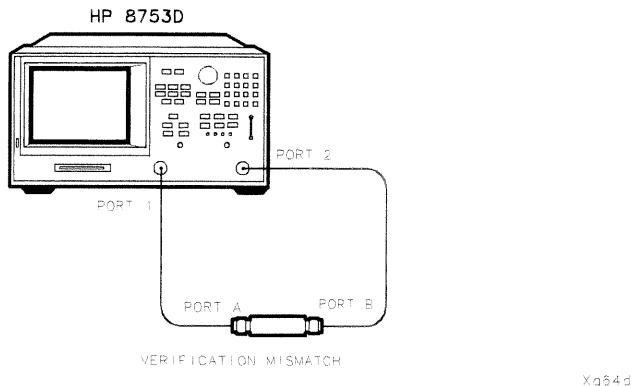

Figure 2-12. Mismatch Device Verification Setup
45. Connect the verification mismatch (supplied in the kit) as shown in Figure 2-12. Be sure port A of the verification mismatch is connected to reference test port 1.